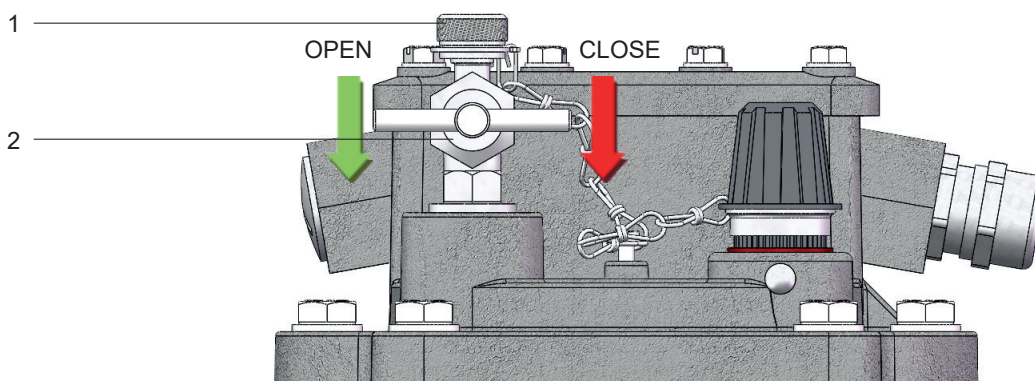

Fig. 11 - Cover of the gas relay
- Remove the small cap nut (Fig. 11/ no. 1) from the bleeder valve (Fig. 11/ no. 2) and open the bleeder valve (turn anticlockwise).